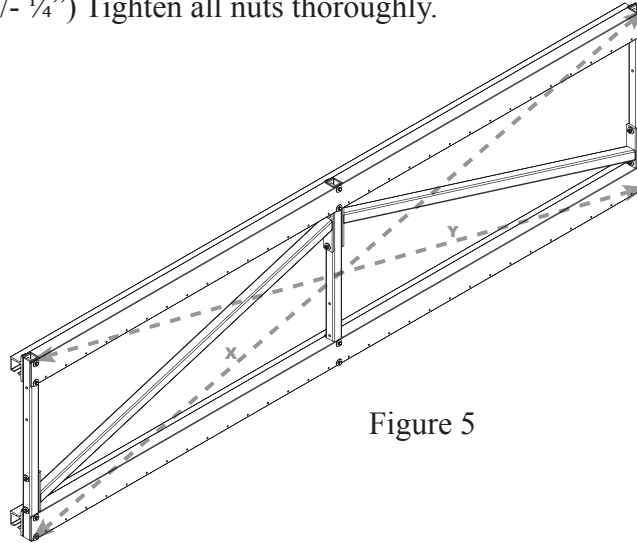

Figure 5
6. Square the gate by measuring from corner to corner on frame as shown in Figure 5. Dimensions "X" and "Y" should be equal (+/- 1/4") Tighten all nuts thoroughly.